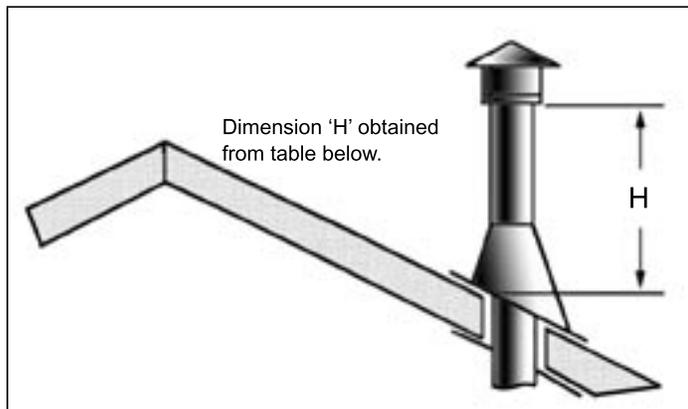

Figure 29: Height of Vertical Termination; Reference Table 6.
- STEP 8.** Continue to add pipe sections until the height of the vent cap meets the minimum code requirements. Refer to Figure 29 and Table 6. Note that for steep roof pitches, the vent height must be increased. In high wind conditions, nearby trees, adjoining roof lines, steep pitched roofs, and other similar factors can result in poor draft, or down drafting. In these cases, increasing the vent height may solve the problem.
Table 6: Minimum 'H' for Figure 29.